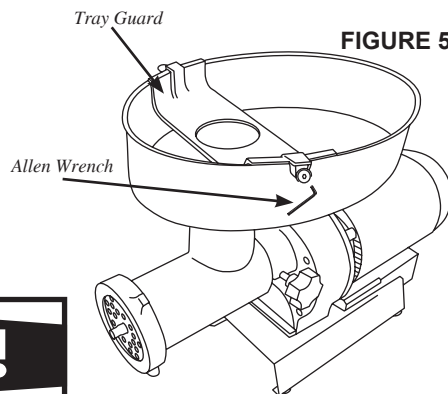

FIGURE 5
10. The tabs of the **Tray Guard** will fit over the sides of the **Tray**. Gently press down on the **Tray Guard** until it fully seats onto the sides of the **Tray**, curving into the **Tray** (Figure 5).